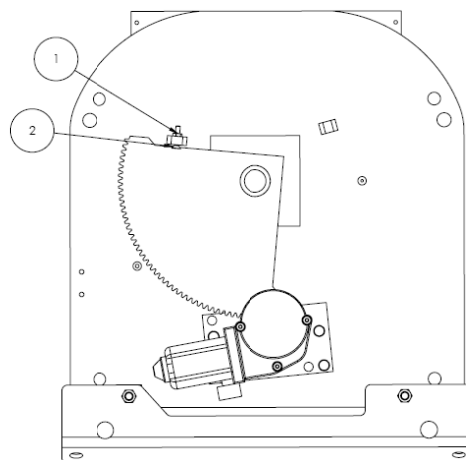

Figure 1.5
10.) Adjust the Swivel Gear Stop (SEE: Figure 1.5)